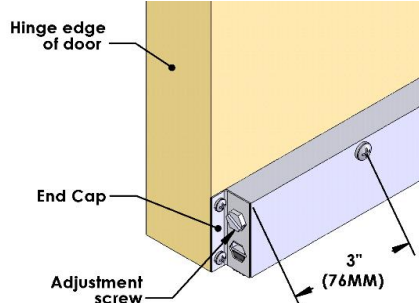

Fig. 2
9. When the screw is properly adjusted, position the end cap with the hex hole over the adjustment screw and attach to the door to lock the setting. (See fig. 2)